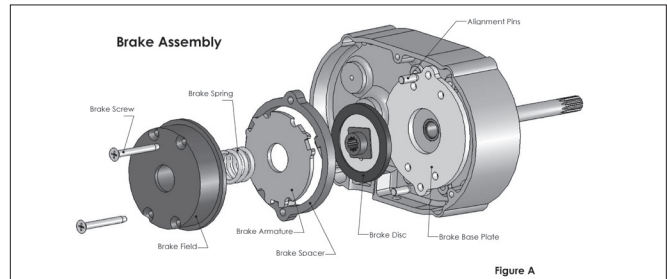

Figure 16: Brake Assembly
The brake is non-adjustable with a nominal .004 inch (0.102 mm) air gap and the brake disc must be replaced when the air gap reaches .012 inch (0.305 mm). The brake spacer should be no more than .012 inch (0.305 mm) thicker than the combined thickness of the brake disc and armature plate. Refer to Figure 16.
1. Refer to Figure 16 and disassemble the brake. Depress and hold the field assembly while removing the four brake screws. The field assembly is under spring pressure and will spring-out if not held. Examine the base plate, brake disc and armature for excessive wear, scoring or warpage. Make sure the brake disc is not glazed, the coil firmly fixed in the field) and the brake spring is not damaged. Worn, scored, warped, glazed or damaged parts should be replaced before proceeding.
2. Refer to Figure 16 and assemble the brake. Depress and hold the field assembly while installing the four brake screws through the brake parts and mount the brake on the gear housing. Tighten the four brake screws to 25 in.lb.